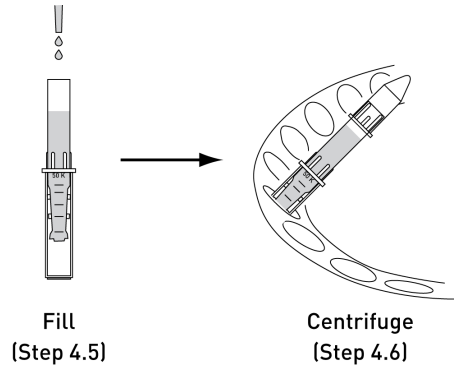

Figure 5 Purification and concentration of azide-modified antibody
- 4.5 Add 1.6 mL of 1X Tris, pH 7.0 (or TBS) and 250 μ L of the azide-modified antibody from Step 3.3 to the large antibody concentrator (Component I) as shown in Figure 5.